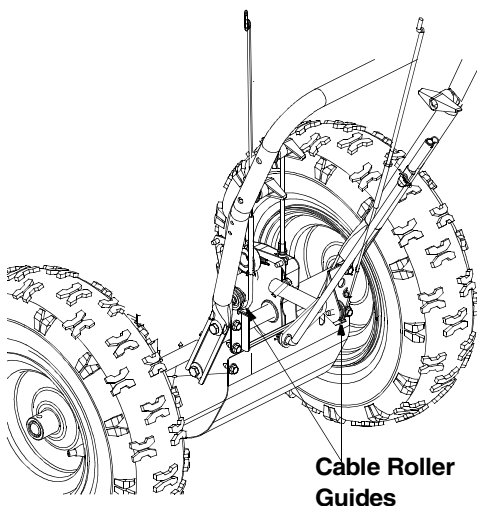

Figure 2
- Look at lower rear of snow thrower frame to be sure both cables are aligned with cable roller guides. See Figure 2.